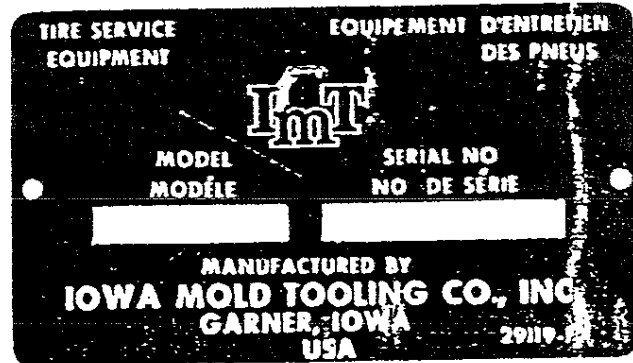

Figure H-1. Crane Serial Number Placard
Every unit has an identification placard (Figure H-1) attached to the mast. When ordering parts, communicating warranty information or referring to the unit in correspondence, always include the assigned serial number and model number. All inquiries should be addressed to Iowa Mold Tooling Co., Inc.; 500 Highway 18 West; Garner, Iowa 50438 or telephone (515) 923-3711.